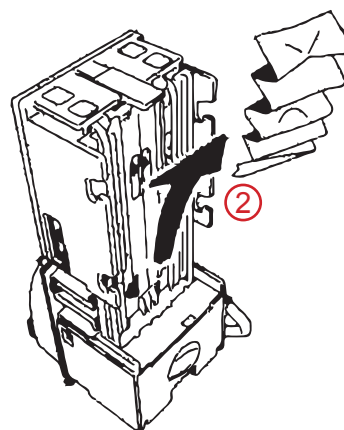

Figure 78
2. Remove the stuck banknote (see figure 78)